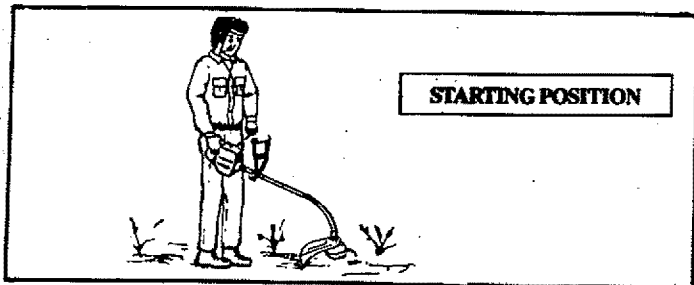

Figure 7
- c. Stand in the operating position. Rest Shield on ground, supporting Trimmer Head up off ground away from trees, bushes, onlookers, etc. Figure 7.